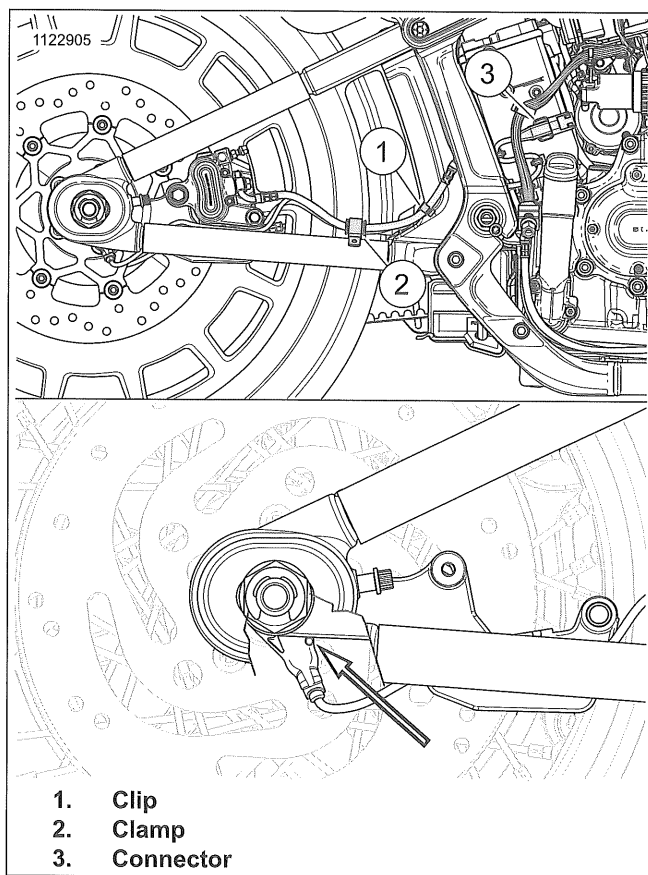

Figure 3-8. Rear Wheel Speed Sensor Orientation
- c. Install rear axle through left spacer (6), left leg of rear fork, and rear sprocket (8).
- e. Install rear axle through right inner spacer (3) or WSS (4), caliper bracket (2), right outer spacer (1) and right leg of rear fork.
- f. Install washer (11) and axle nut (12). Hand-tighten.
2. See Figure 3-8. Rotate WSS to position shown, if equipped. Verify wire harness is routed correctly.